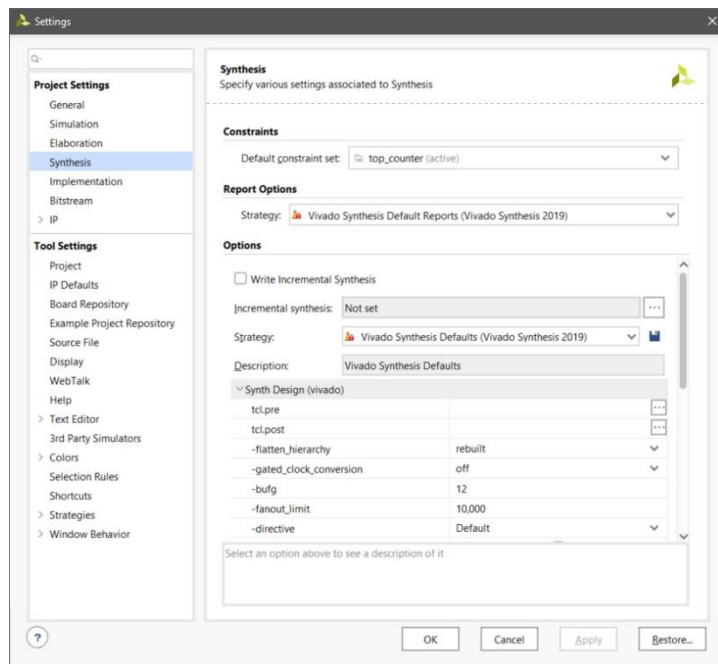

Figure 48
2. Check only that in the **Synthesis Settings**, accessible in the **Flow Navigator** window, in the **Project Manager** section, **Settings → Project Settings → Synthesis**, the **Default constraint set:** active is the **top_counter**, to be sure that the new constraint set defined for the **top_counter** design is the one the tool is going to use in the implementation (Figure 48)